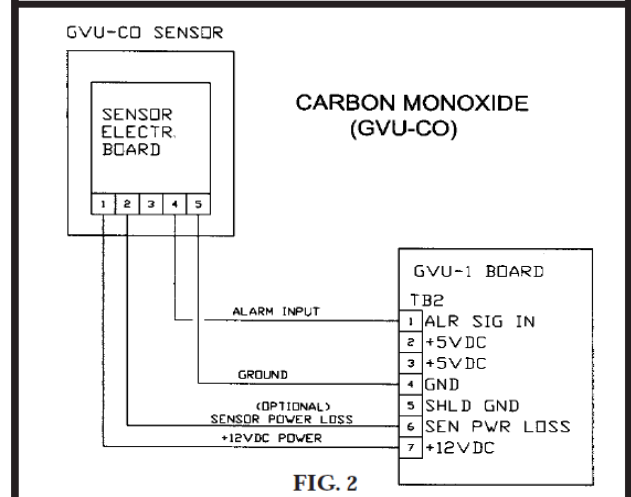

FIG. 2
NOTE: Refer to figs. 2 and 3 and tables 1 and 2. Use shielded cable to interconnect sensing and control unit if metal conduit is not used, or if conduit also contains AC wiring.
2.) Run wiring between control and sensing unit and into enclosure through access holes. Connect wires from terminal blocks in sensing unit to TB2 in control unit per figs. 2 & 3.
Terminal strip TB-2 (figs. 2 & 3) is the control I/O between the GUV-1 control unit and the sensing unit. **(NOTE: This terminal strip will supply 12VDC power to the GUV-CO SENSOR ONLY via terminal 7. Power for any other sensor type will be supplied at terminal strip TB-10).**